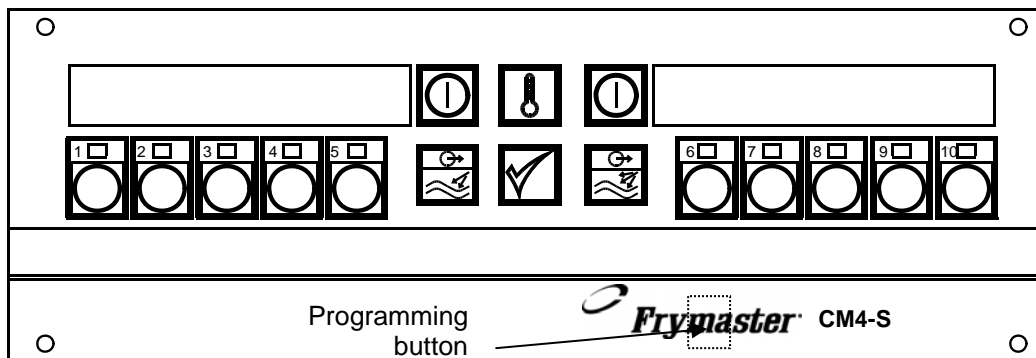

Figure 1: CM4-S Computer
1. With the display showing OFF. Press the programming key. See Figure 1 above.
1. With the display showing OFF. Press the programming key. See Figure1.
3. Press the hidden programming button. See Figure 1.